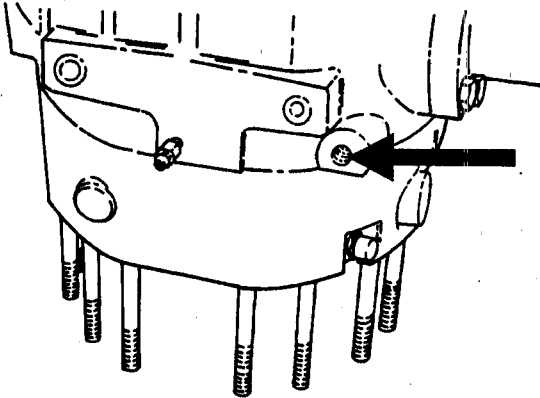

Figure 8.
14. Separate steering case (11) from lateral axle housing (1). Save the dust excluder (44).
15. Remove seal (43), retaining ring (42) and needle bearing (41).
16. Remove outer races of taper roller bearings (10) from lateral axle housing (1).
17. Remove nut (3) and grub bolt (2) and slide out the double universal joint (45). Remove retainer rings (50 and 51). Pull out bushing (47) and remove ball bearing (49), seal (48) and o-ring (46).
18. Stand center assembly (Figure 8) on end, and apply 40-70 psi (270 - 483 kPa) to the brake line part to release brake pistons (16, Figure 4). Remove brake pistons (16). Note o-ring (17) and back-up ring (18).
**WARNING:** Perform this operation only with assembly in position shown in Figure 8. Treat compressed air with caution.